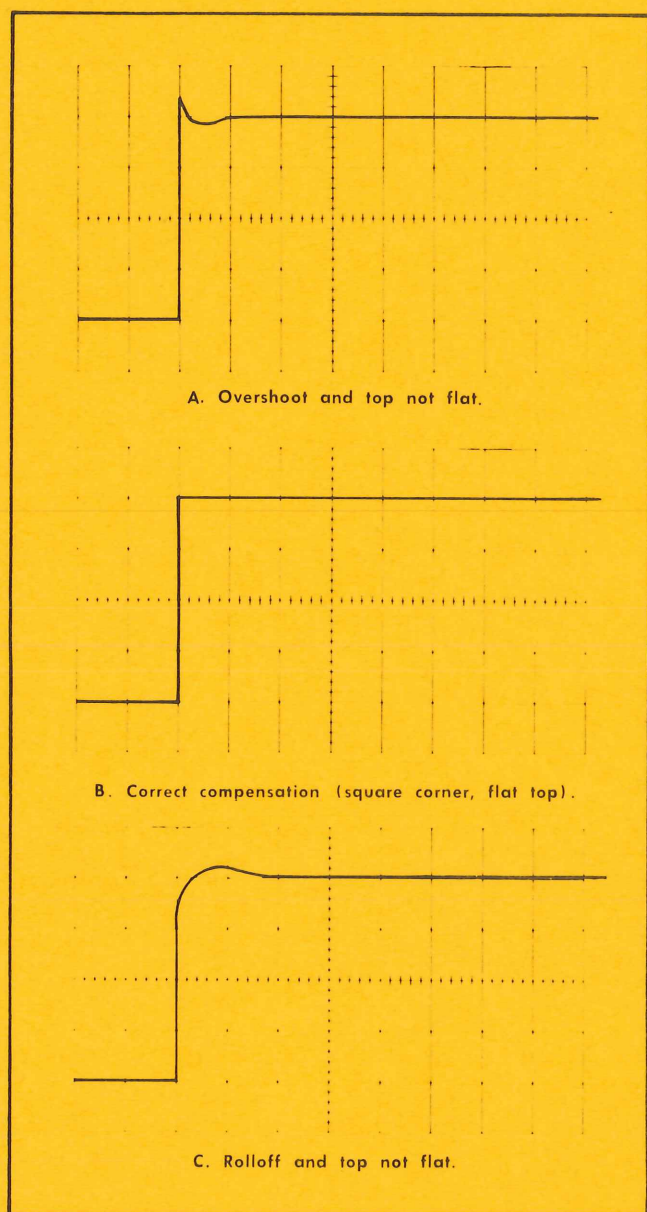

Fig. 2-6. Typical waveforms showing correct and incorrect compensation adjustments.
**Compensation.** The compensation of an AC-voltage divider such as is used in the input attenuator of an oscilloscope or a passive attenuator probe, can be checked by observing its response when a square-wave signal is applied. Correct response is shown by optimum square corner on the displayed waveform. If the waveform has spike, rolloff or front-corner rounding, the system is not correctly compensated. Fig. 2-6 shows typical waveforms illustrating correct and incorrect compensation adjustments.